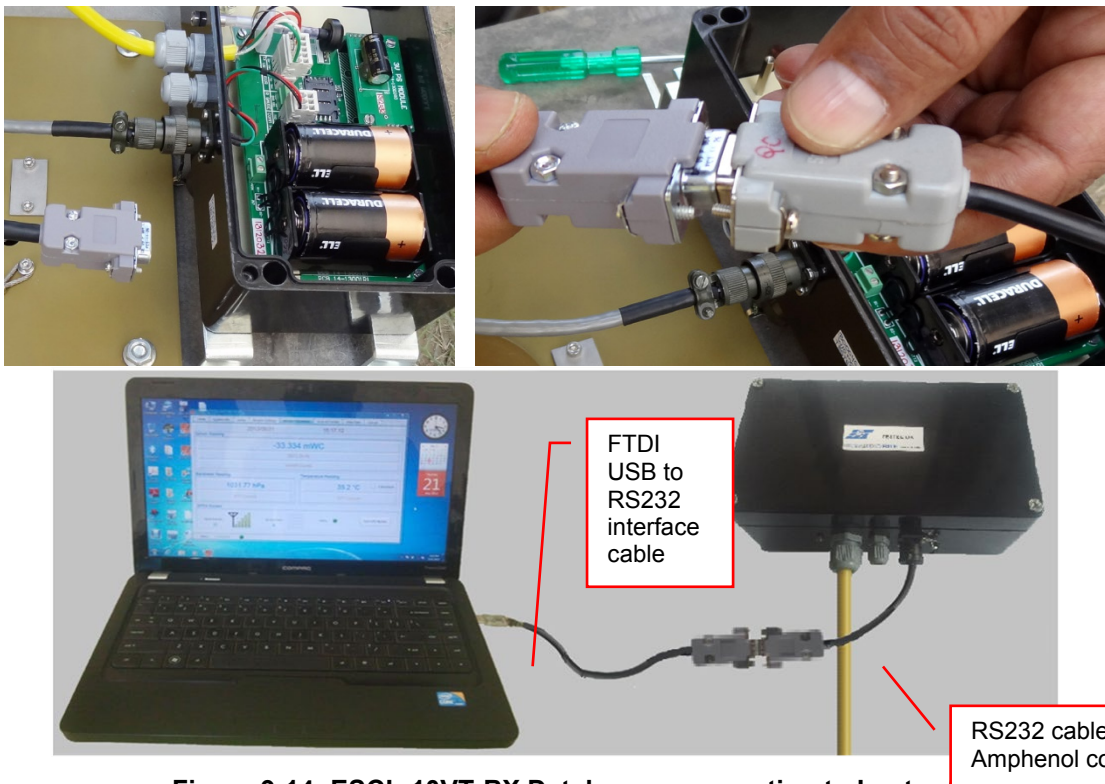

Figure 9-14: ESCL-10VT-BX Datalogger connection to Laptop
9.6.27 For connection to PC/Laptop, connect the RS232 cable to the amphenol connector of the datalogger. To this connect the FTDI USB to RS232 cable. Refer to figure 9-14 for details.